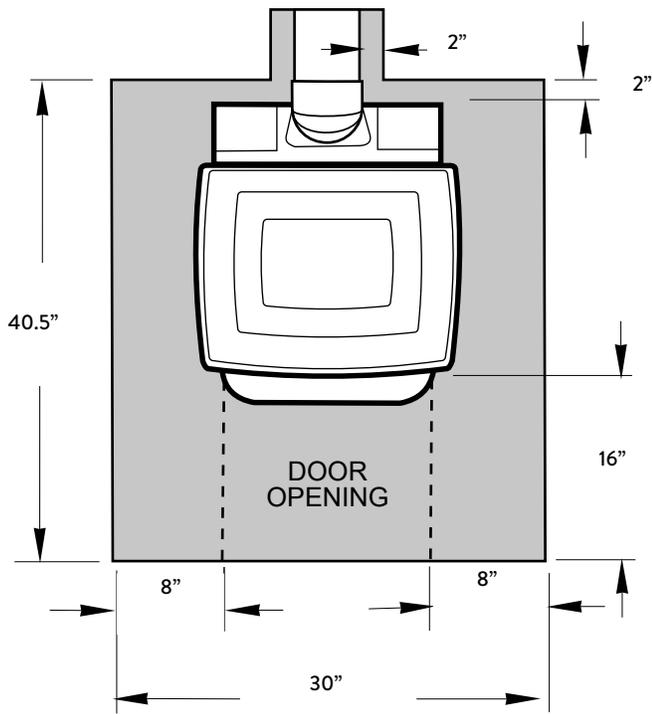

Figure 9. Floor Protection minimum dimensions, U.S. Rear Exit.
**IN THE U.S.:** Floor protection must extend continuously forward from the door opening at least 16 in. and 8 in. from the sides of the door opening. Protection must also extend 2 in. from the rear and 2" to the sides under any horizontal or vertical chimney connector. This will result in a minimum floor protector measuring 30" wide x 40.5" deep for rear exit and 30" wide x 43.25" deep for top exit. See figs 9 and 9a.